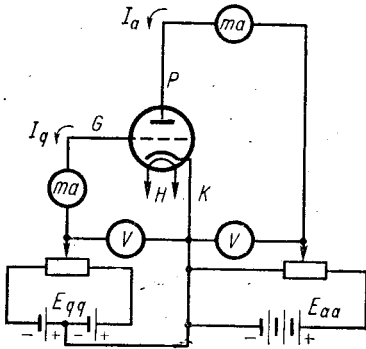
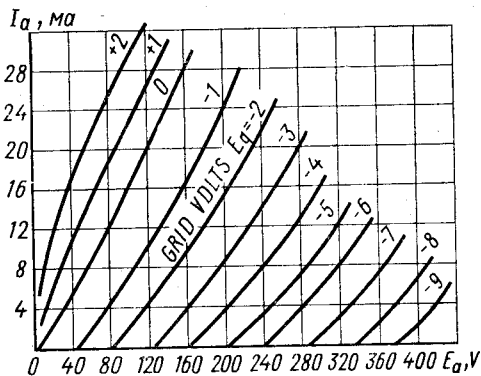

Fig. 3. Circuit for determining triode characteristics
Fig. 5. Plate current-plate voltage static characteristics of 6J5 triode
5. A circuit for obtaining the static characteristics of a triode is illustrated in Fig. 3.
8. We can use the circuit of Fig. 3 to determine the family of static plate current-plate voltage characteristics for the 6J5 triode. The results are shown in Fig. 5. Here again, the curves have a similar shape, being curved in the lower portion near plate-current cut-off and fairly linear in the upper portions. Each curve shows
1. What can be summarized in the triode's characteristic performance curves? 2. When are static triode characteristics obtained? 3. What does the plate current-plate voltage characteristic show? 4. What section of plate current-plate voltage characteristic is linear? 5. Why are variable voltage dividers connected across the plate voltage and grid voltage supplies? 6. What is measured by voltmeters and amperemeters while determining a family of plate current-grid voltage characteristics? 7. How are triodes almost always operated? 8. What for can the circuit in Fig. 3 be used? 9. What influence has the increase of the grid voltage on the plate current? 10. When does grid current decrease?